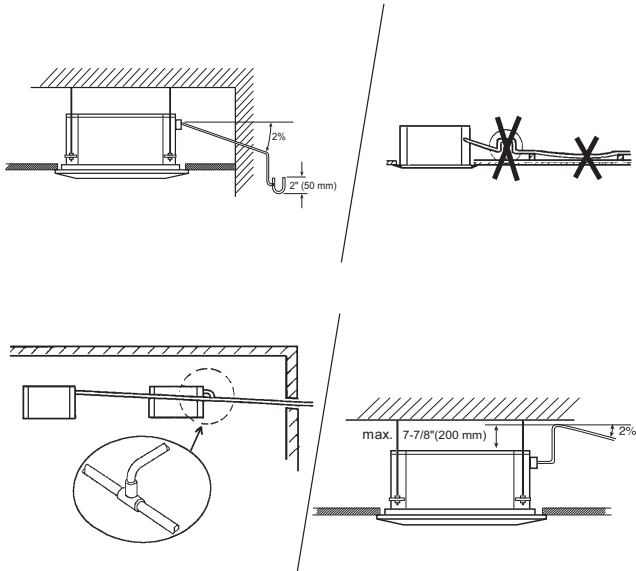

Fig. 30 - Condensate Drain Pipe
- a. Use hard polyvinyl chloride (PVC) pipe material with nominal ID of 1 in. to connect at drain line. To ensure correct condensate water flow, the pipe should have a gradient of 2% without obstruction. See Fig. 30